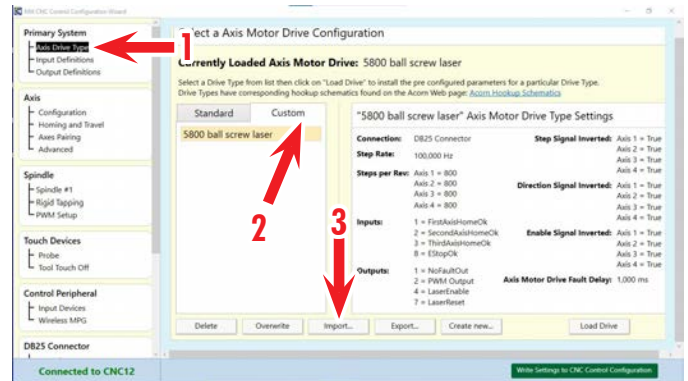

FIGURE 4—1-Select the Axis Drive Type; 2-Click on the Custom tab; 3-Click on the Import button.
3. On the **Axis Drive Type** page, click on the **Custom** tab, then click on Import (see Figure 4).